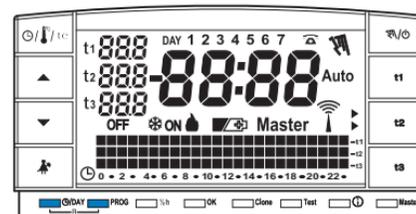

fig. 27
- To clear unwanted data, press keys **☉/DAY** and **PROG** (approximately 2 seconds). All sections that are on will appear on the display (general autotest) (fig. 27/28).